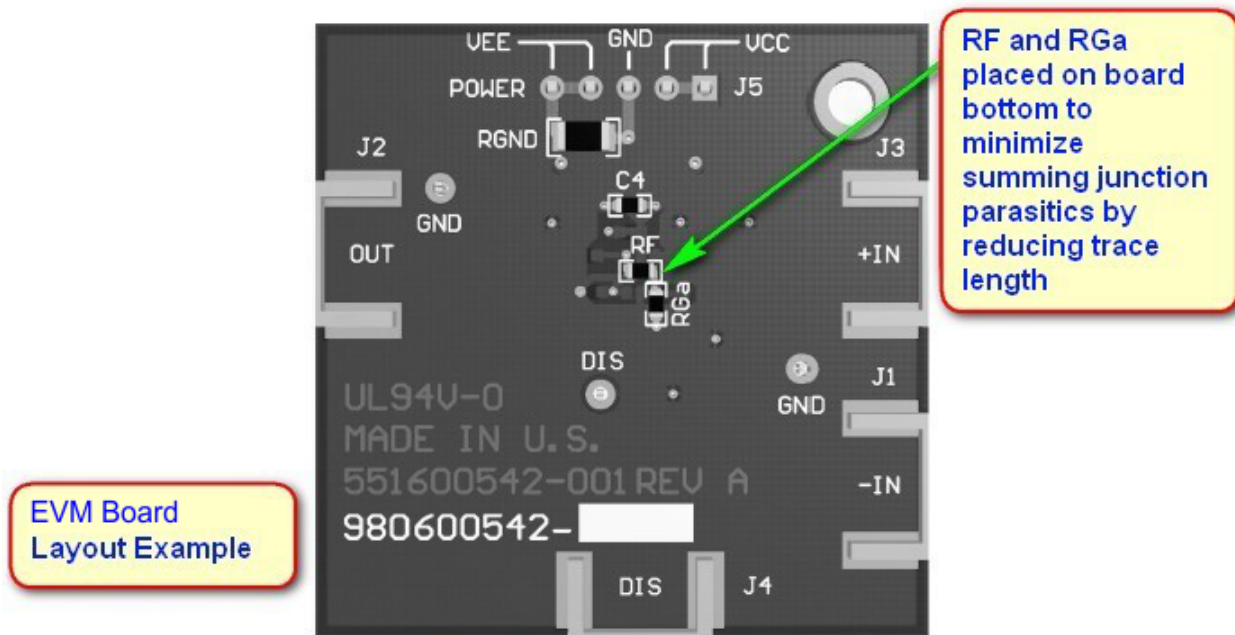

Figure 59. LM8261 Evaluation Board Layer 2
- The input summing junction is very sensitive to parasitic capacitance. Connect any  $R_f$ , and  $R_g$  elements into the summing junction with minimal trace length to the device pin side of the resistor, as shown in Figure 59. The other side of these elements can have more trace length if needed to the source or to ground.